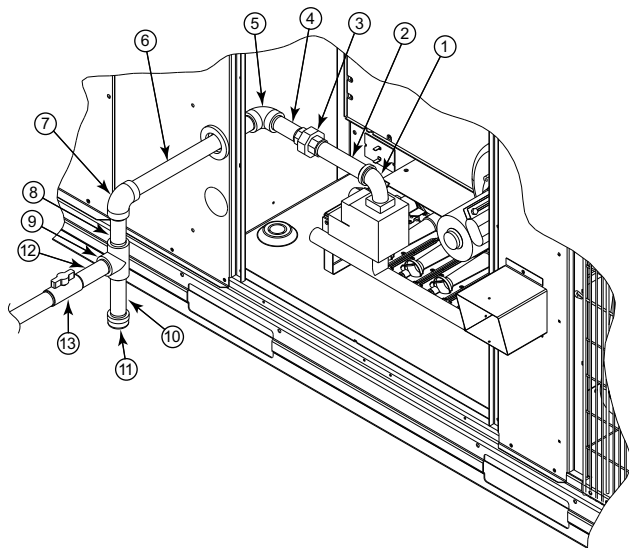

Fig. 35 — Gas Supply Line Piping
For typical $\frac{3}{4}$ -in. NPT field supplied fittings required for NON Thru-Base gas supply starting from the unit gas valve, omit items 14 and 15 from Table 7 and pipe gas supply into Tee. See Fig. 35.